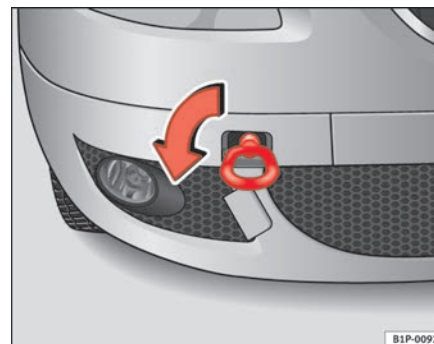
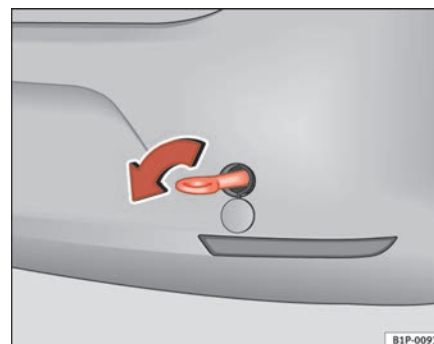

Fig. 181 The front right section of the vehicle: Fitting the front towing eye
Fig. 182 Fitting the towing eye to the rear of the vehicle
- Screw the towing eye as shown by arrow *anti-clockwise* to the limit position in the front ⇒ page 259, fig. 181 or rear ⇒ page 259, fig. 182 threaded hole. ■